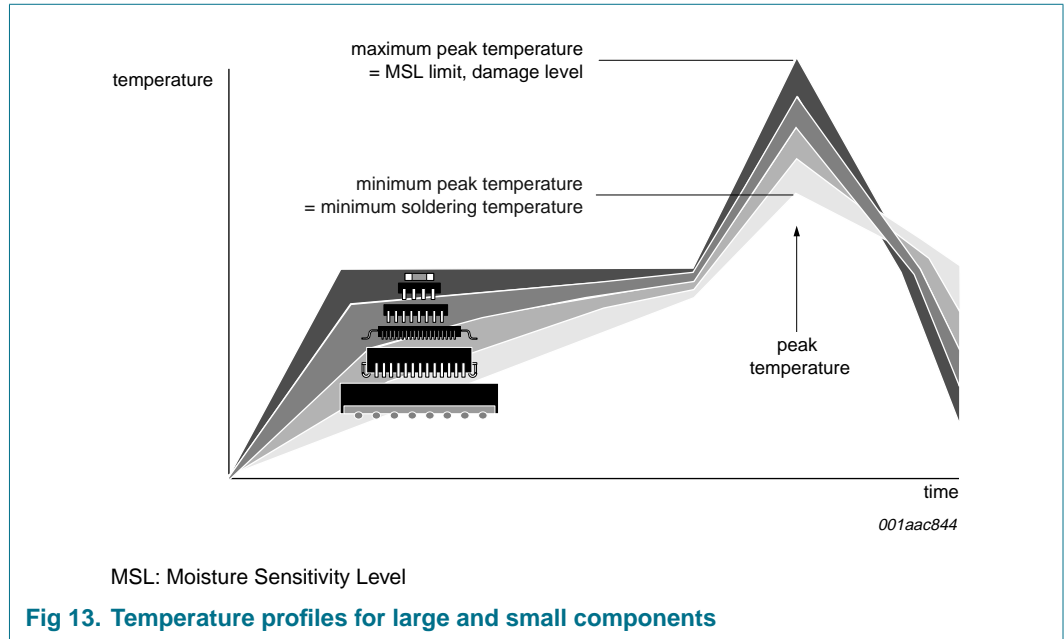

Fig 13. Temperature profiles for large and small components
- Lead-free versus SnPb soldering; note that a lead-free reflow process usually leads to higher minimum peak temperatures (see Figure 13) than a PbSn process, thus reducing the process window
Studies have shown that small packages reach higher temperatures during reflow soldering, see Figure 13.